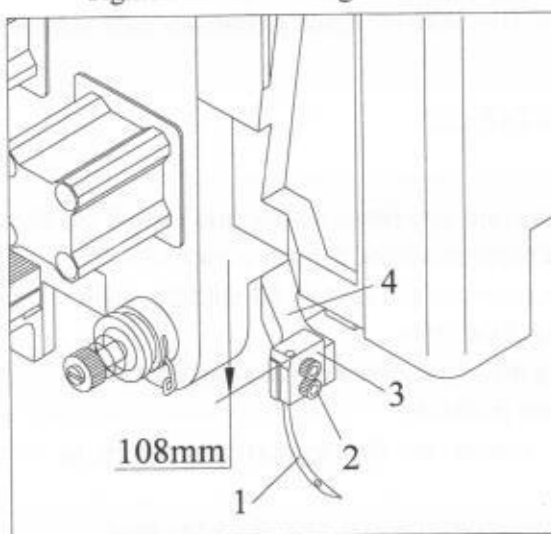
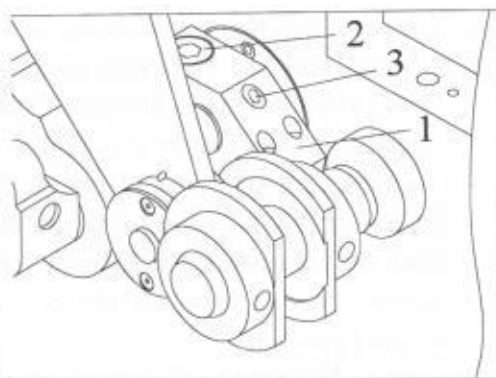

Fig.5
Fig.6
4.1 Needle replacement (Fig.5)
4.2 Set the highest position of the needle (Fig.5, Fig.6)
To ensure the highest position, remove the upper cover and the head cover, turn the pulley in the correct direction, letting the needle bar 4. comes to its highest position, if the distance from the threading hole of the needle clamp 3. to the upper plate of the machine (upper cover is removed) is 108mm (as shown in Fig.5) then its position is right else is wrong (Fig.5).
To adjust this position, proceed as follows: (Fig.6)
- Turn the needle bar 4. (Fig.5) to the correct position as described above.